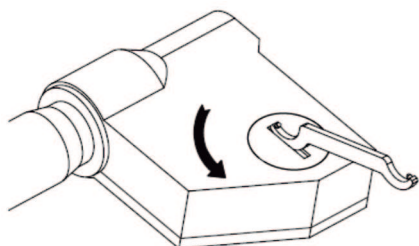

fig. 1
- » Rotate the battery cover 45° counterclockwise using the wrench (fig. 1), then remove it.